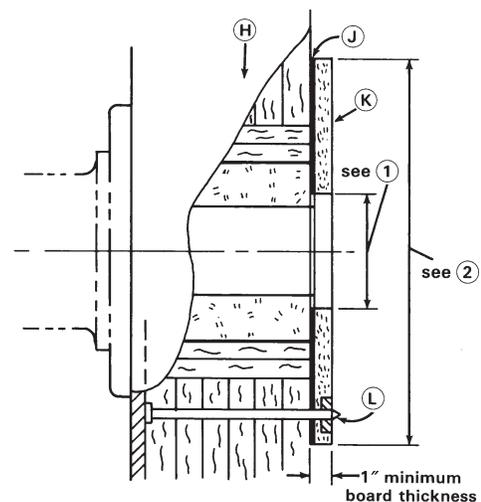

Figure 2A. Fiber board shield installation for applications exceeding 2200 F (see Figure 2B for flat flames).
3. Insert mounting bolts (G) (not provided) and weld heads to inside of furnace shell.
5. Bolt mounting plate and tile to shell with gasket (F) in place if supplied.
6. Coat outside of tile with air setting refractory cement (C). Also, fill clearance gap between shell opening and tile with cement.
7. Wrap exposed tile length with continuous strip of blanket insulation (B) two layers thick.
8. Compress and secure wrap to tile, using a suitable non-metallic tape (E). Do not use string as it tends to cut the blanket. Compression of wrap should be at least 25%.
10. For applications exceeding 2200 F furnace temperature, install ceramic fiber board shield as illustrated in Figures 2A and 2B.
1. Bolt mounting plate and burner tile to shell with gasket (F) in place.
2. Coat outside of tile with air setting refractory cement (C). Also, fill clearance gap with cement.
4. Use a fiber board shield to retain the packed bulk fiber. (Refer to Figures 2A and 2B.)
Legend for Figure 2A